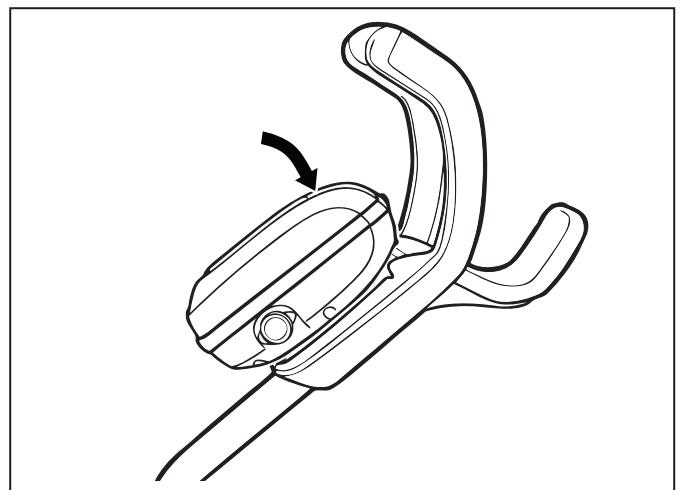

Figure 10. Attach the Control Unit onto Caddy
2. Press control unit onto the caddy hook until it snaps and locks into position (Figure 10).